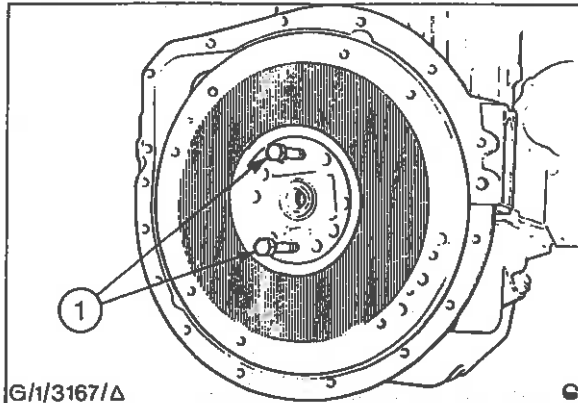

Fig. 22 - Removing Flywheel
34. Remove the flywheel retaining bolts and, using two suitable bolts in the threaded holes as pullers, tighten the bolts evenly one turn at a time and withdraw the flywheel off the crankshaft - see Fig. 22.